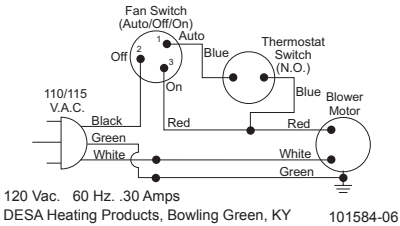

Figure 18 - Wiring Diagram For Fan Accessory Built-In Installation
4. A licensed electrician must follow the wiring diagram in Figure 18, page 15 to connect incoming electrical supply to fan kit wiring harness.